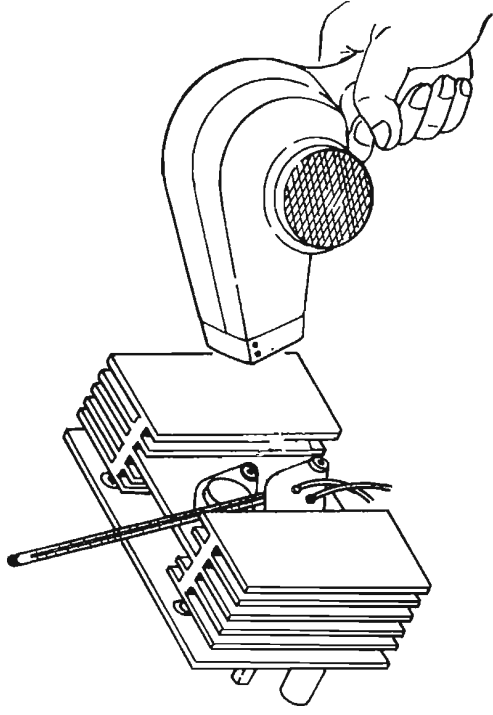

Fig. 4-7-3 Thermal Sensitive Protection Check
Step 3: Insert a thermometer between the power transistor and CS₁. Heat the power transistor and CS₁ gradually using a heat blower, as shown in Fig. 4-7-3. A conventional hair dryer is acceptable.